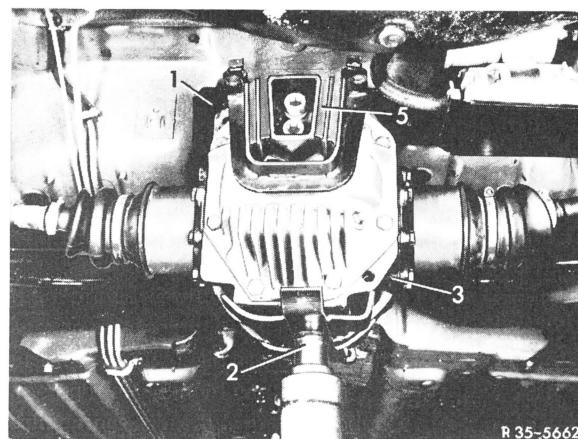

Fig. 8
**17** Place rear axle center housing with rear axle shafts on vehicle jack top and move into installation position (Fig. 8).